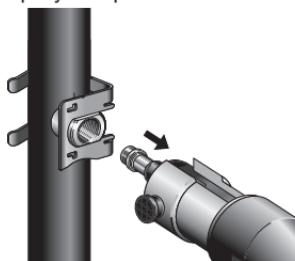

**Figure 13 – Attaching Press Tool To Expander**
2. Slide the press tool over the expander (1) and fully close the attachment-mounting pin (2). (*See Figure 13*). The tool will not operate unless the mounting pin is fully closed. Keep your hands on the press tool to align and support it. Do not hang the press tool from the pipe.